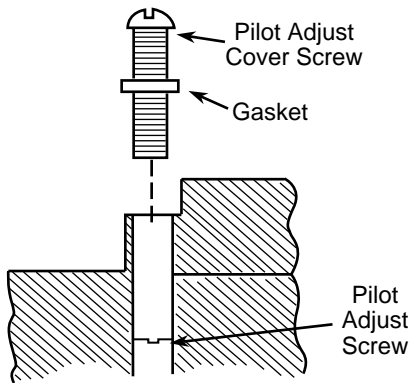

Figure 6. Pilot flame adjustment
To adjust the pilot gas pressure, remove the cover screw (see fig. 6). **To REDUCE pilot pressure**, turn the pilot adjust screw (beneath the cover screw) clockwise. **To INCREASE pilot pressure**, turn the pilot adjust screw counterclockwise. Replace and tighten cover screw.
4. Depress gas control knob slightly and turn clockwise to **OFF** (see fig. 6). If knob is in **ON**, turn clockwise to **PILOT**, then depress knob slightly and turn clockwise to **OFF**.